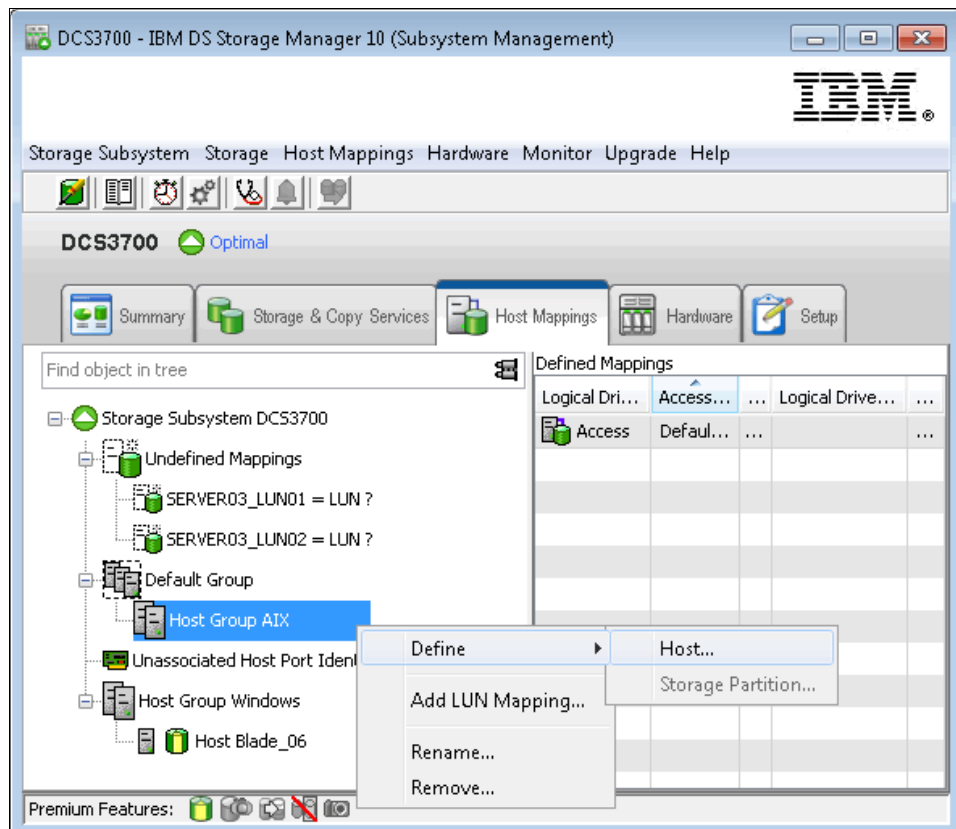

Figure 19-11 Defining a host
3. Right-click the AIX host group and select **Define** → **Host...**, as shown in Figure 19-11.